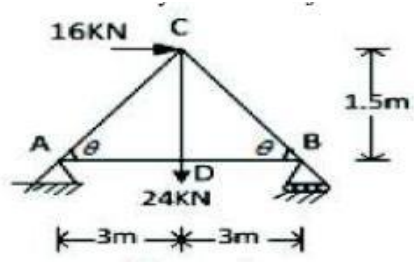

Figure 1
- cantilever truss is loaded as shown in Figure 1. Analyze the truss by method of joints.
- cantilever truss is loaded as shown in Figure 1. Analyze the truss by method of sections.
- Determine the member forces of the truss shown in Figure 1, using method of joints.
9. Find the forces in the members of truss by method of joints as shown in Figure 1.